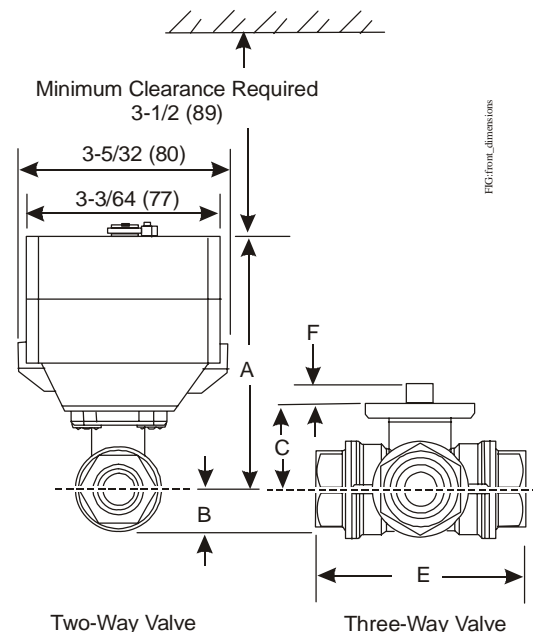

Figure 1: Dimensions of VG1241, VG1245, VG1841, and VG1845 Series Ball Valves with VA2202 actuators, in. (mm), Front View
See Figure 1 and Table 2 for dimensions of VG1241, VG1245, VG1841, and VG1845 Series Ball Valves with VA2202 actuators.
- Allow sufficient clearance to remove the actuator (see Figure 1 for clearance dimensions).